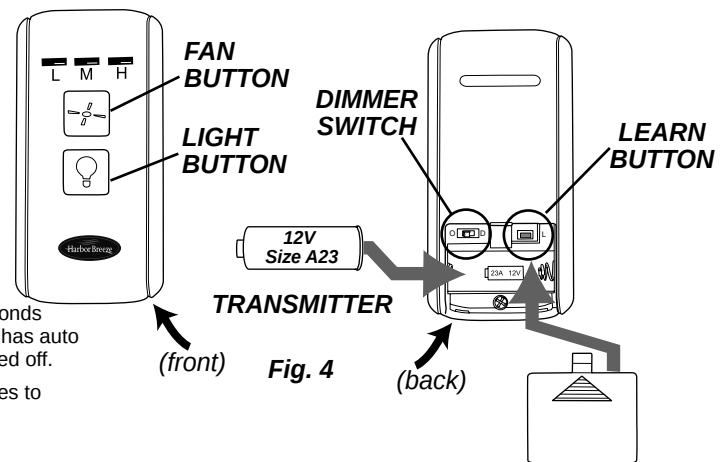

Fig. 4
- C.** Restore electrical power. Within 30 seconds of restoring electrical power, press the "LEARN" button in the battery compartment for 3 seconds or until fan switches to MEDIUM speed. Test the light and fan functions to confirm the learning process is complete. (Figure 4)
- D.** Locate dimmer switch to the left of the "Learn" button in the battery compartment. (Figure 4) Set dimmer switch to the "ON" (D) position only if using incandescent bulbs. Set dimmer switch to "OFF" (O) position if using compact fluorescent bulbs.
- E.** Replace battery cover on transmitter. (Figure 4)